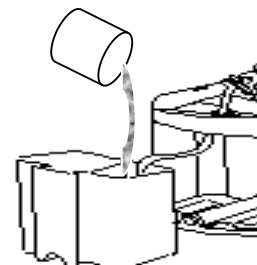

Fig 5
6. If desired, remove the aromatherapy/drain tank from the unit. Fill the aromatherapy tank with up to 60 ml of saline or aromatherapy water. See Fig 5